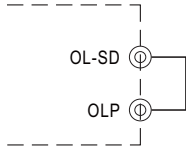

Fig. 5.1 Insert the CN3
- (1) Insert the shorting connector on CN3 that is shown in Fig 5.1, the Overload Protection Type will be "constant current limiting with delay shutdown after 5 seconds, re-power on to recover". This is the factory default.